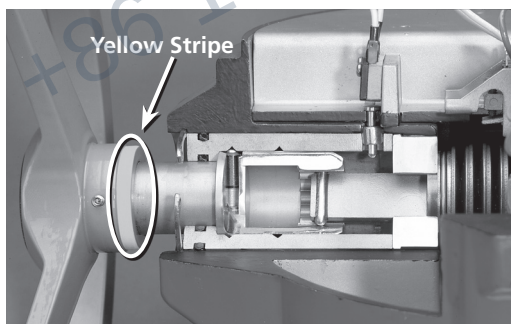

Figure 1. Handwheel is engaged, revealing the yellow strip.
- 4.1.1 To engage the manual override, simply pull the handwheel to its outermost position. A yellow stripe is revealed to visually indicate manual override engagement as shown in Figure 1.